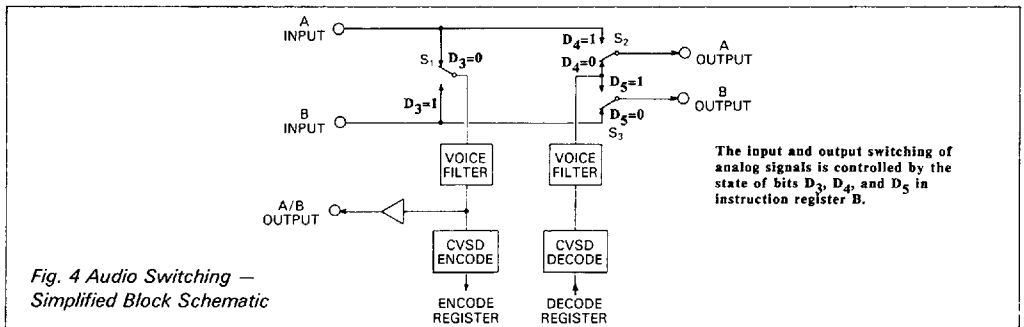

Fig. 4 Audio Switching — Simplified Block Schematic
**17** **Analog output B:** (See Fig. 4.)
**18** **Analog output A:** (See Fig. 4.)
**20** **Analog input A:** (See Fig. 2, Note 4 and Fig. 4)
**22** **Analog input B:** (See Fig. 2, Note 4 and Fig. 4)
**25** **Analog output A/B:** (See Fig. 4.)